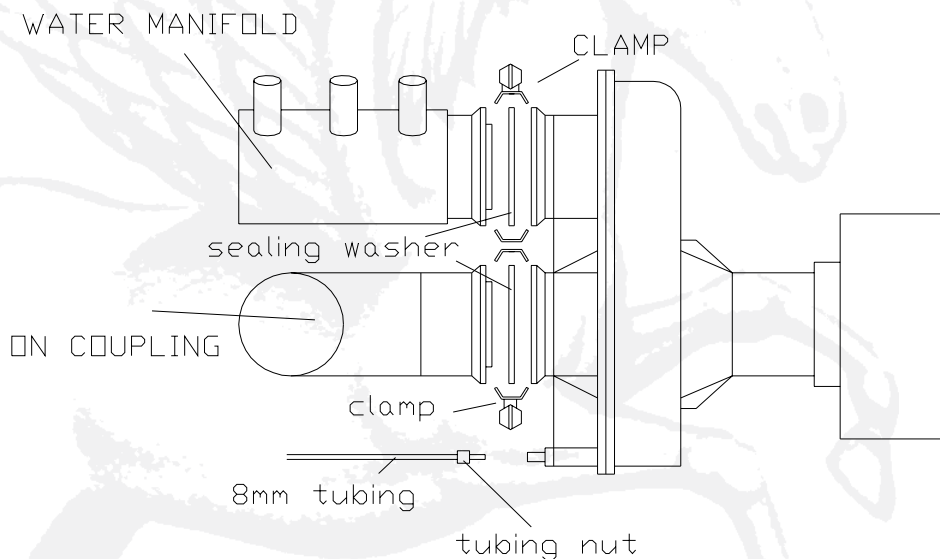

FIG 6
b) Fit it to the pump using tubing nuts and olives provided. See Fig. 6.
c) Using the Pegasus fixing tool secure the Eyeballs in position with the retaining rings. See Fig. 6.